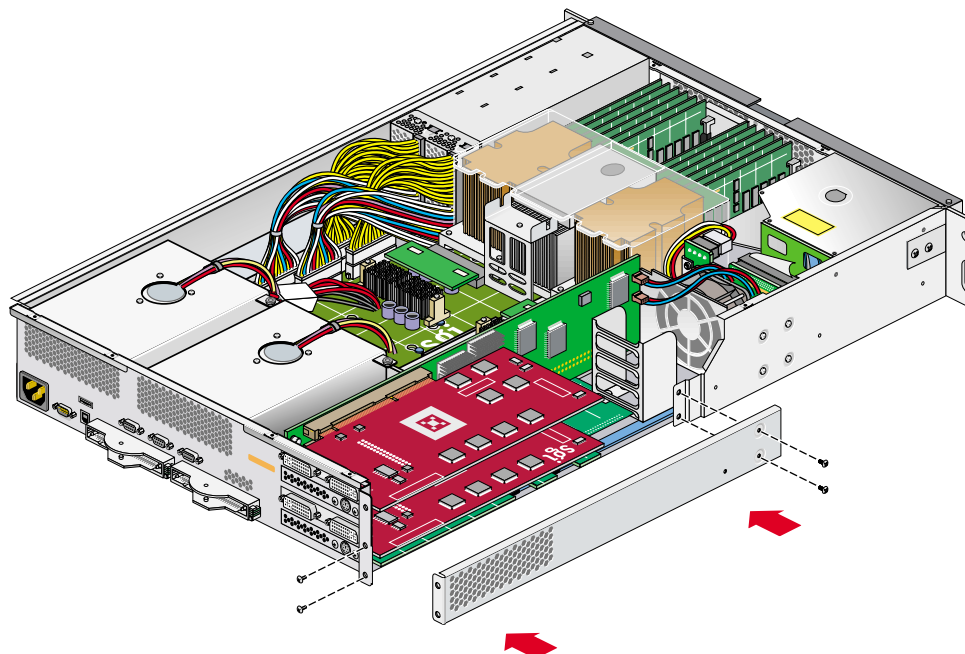

Figure 4-22 Replacing the PCI/PCI-X Support Bracket
4. Replace the lower PCI/PCI-X support bracket and screw in the four Phillips screws, as shown in Figure 4-22.